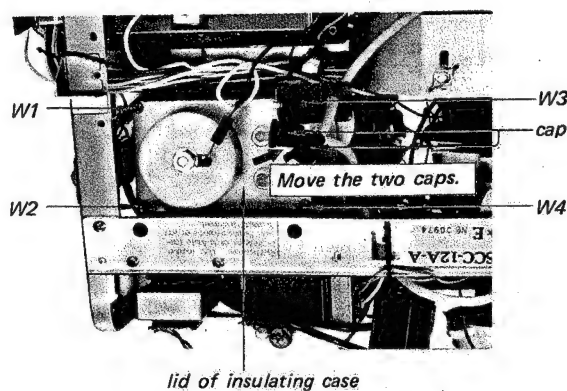

Fig. 2-30.
3. Move the two caps (on the lid of insulating case) along the leads to the anode caps. (See Fig. 2-30.)
4. Remove the four screws labeled W1~4 in Fig. 2-30.